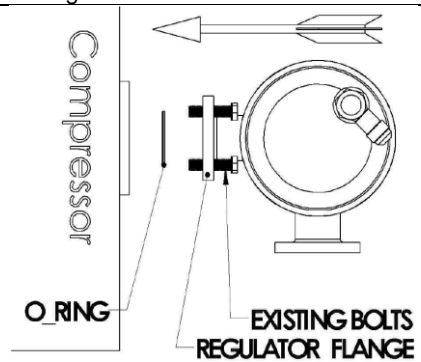

Figure 2: Fit Regulator
5. Insert a new O-ring into the groove, of whichever oil regulator flange will be attached to the compressor / adaptor flange. A light lubrication of refrigerant oil on the O-ring will aid sealing (see Figure 2).
6. Assemble oil level regulator to compressor / adaptor flange using existing bolts and sight glass. Tighten to approximately 7 Nm (5 ft-lbs) (Figure 2). **Important: The regulator must be level to ensure a correct oil reading.**